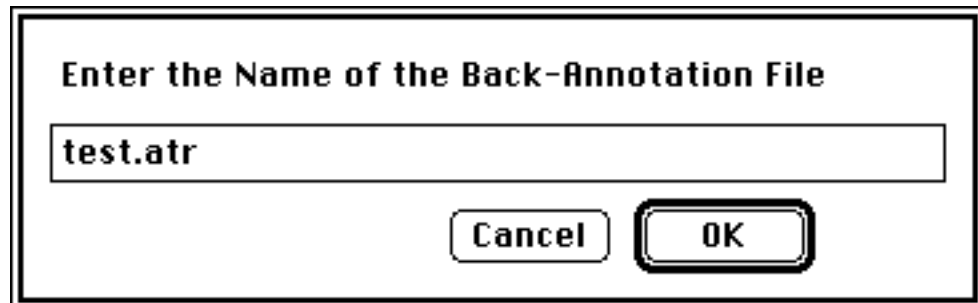

Figure 5-15 *File->Back Annotation Dialog Box*
1. Select the **File->Back Annotate** command from the menu. A dialog box similar to that in Figure 5-15 is displayed.